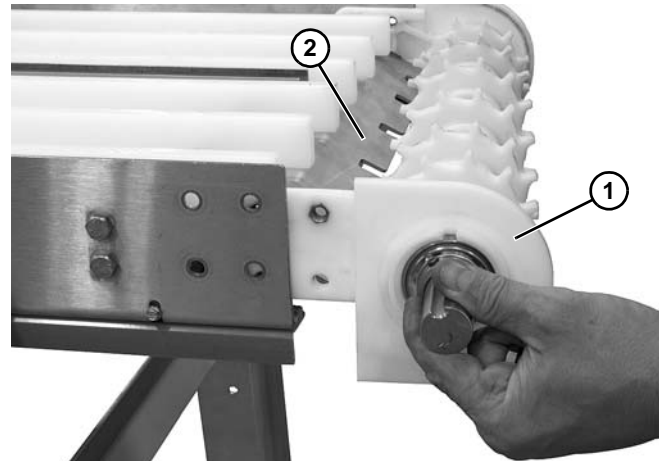

Figure 52
Support bracket (**Figure 52, item 2**) will not be attached and could fall.
5. Remove drive tail assembly (**Figure 52, item 1**).